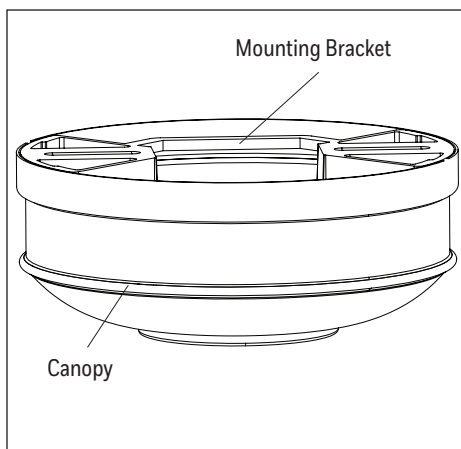

Figure 2.1
1. Firmly hold canopy while twisting the mounting bracket counterclockwise to remove (Figure 2.1).